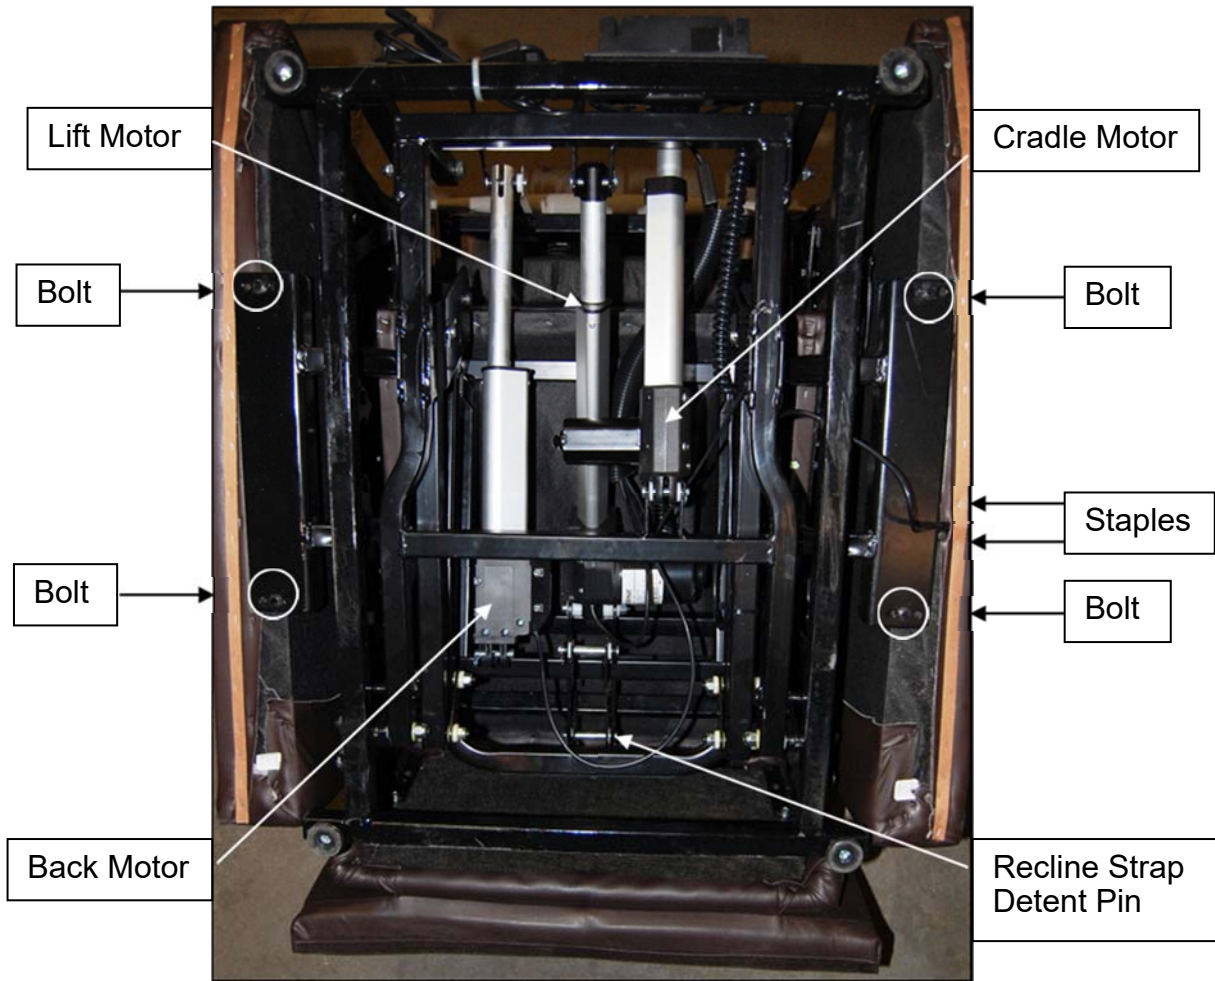

Figure 1
2. Remove staples on both sides of the hand control extension wire. See figure 1.